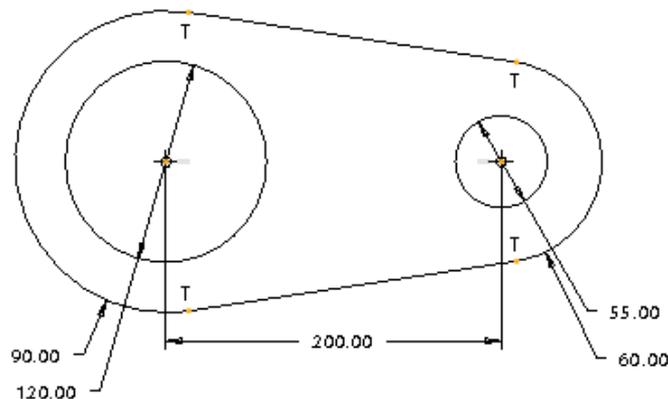

Figure 3-22 Sketch imported and placed in the current file
- c. Import the section by using the **File System** button, refer to Figure 3-22.
5. Choose the **Refit** button from the **In-graphics** toolbar. The sketch, similar to the one shown in Figure 3-22, is displayed in the drawing area.